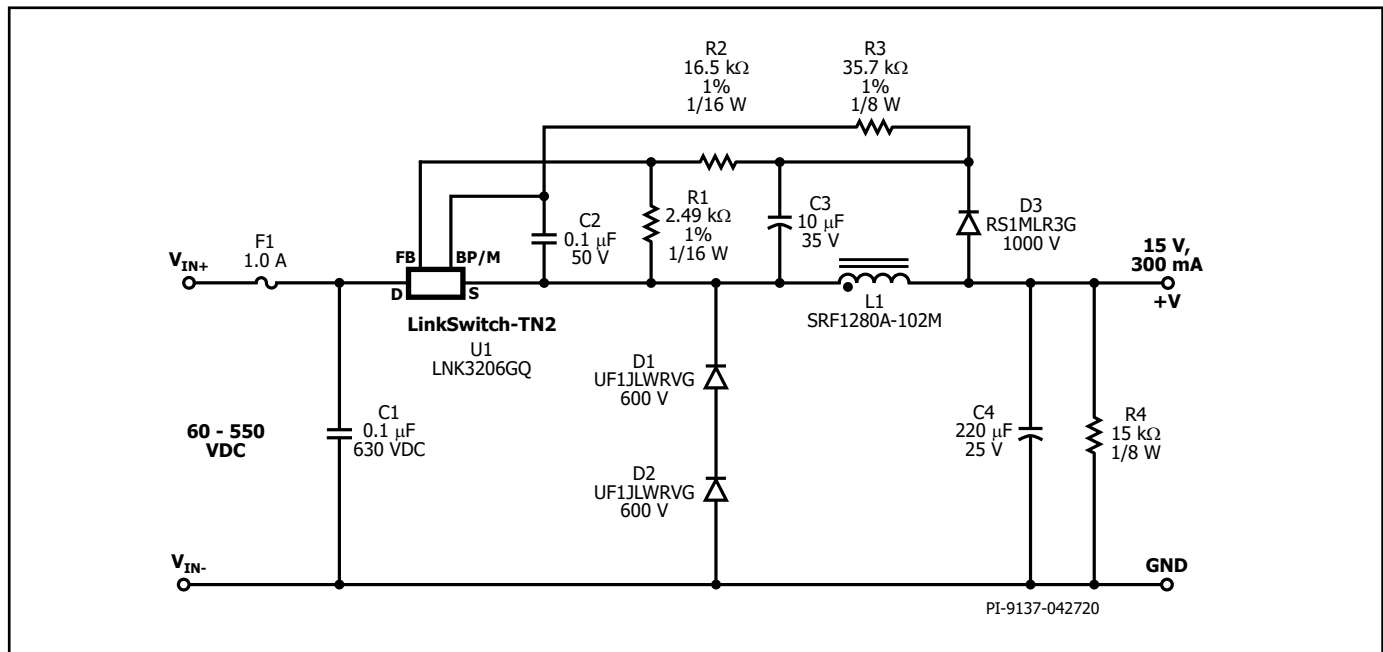
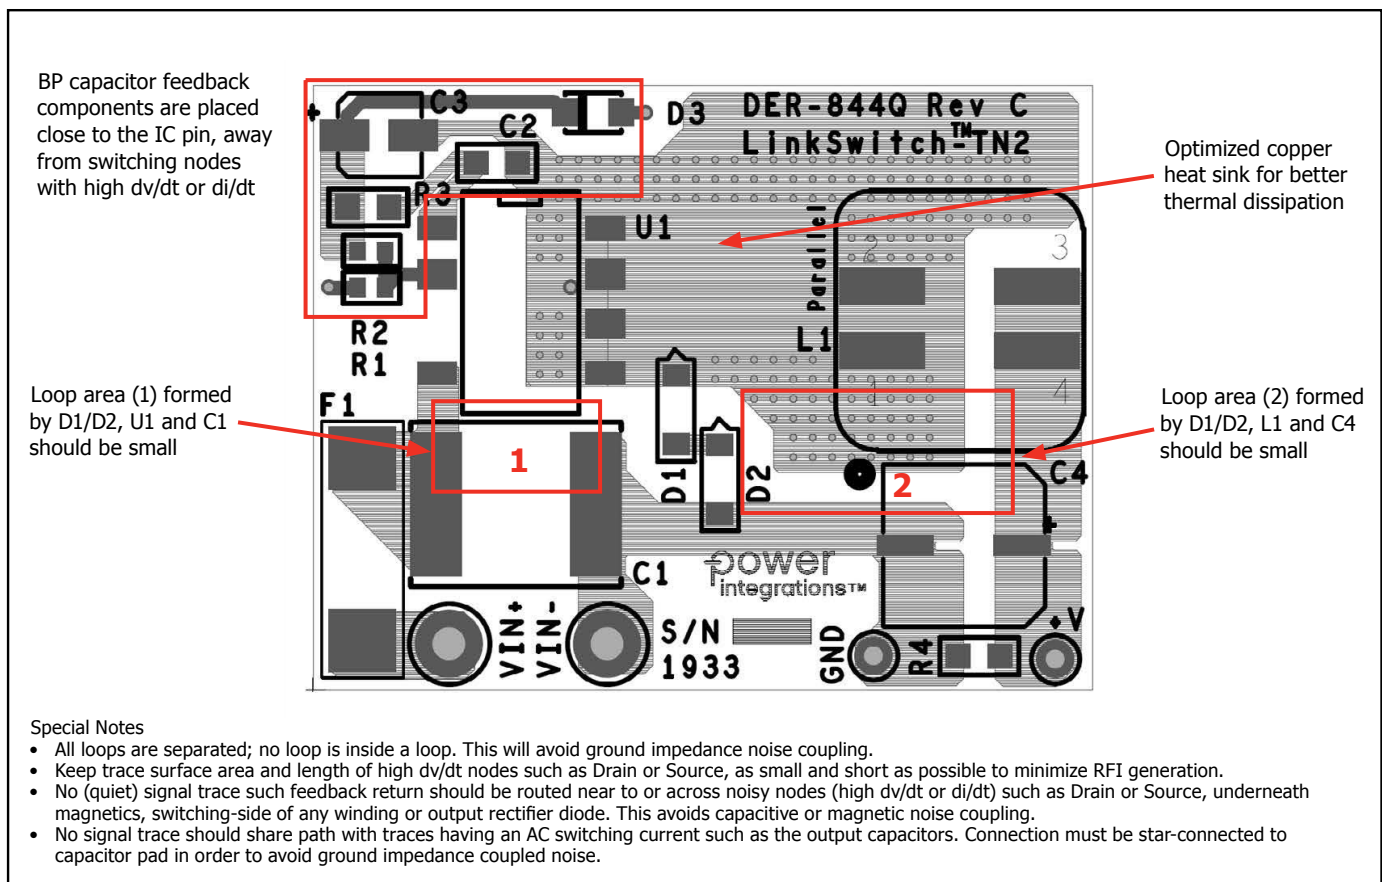

Figure 7. 60 VDC – 550 VDC, 15 V, 300 mA Constant Voltage Power Supply using LinkSwitch-TN2 Automotive.
Figure 8. Recommended Printed Circuit Layout for LinkSwitch-TN2 Automotive using G Package.
The circuit shown in Figure 7 is typical implementation of a 15 V, 300 mA non-isolated power supply used in automotive application. DC voltage from a battery source will be the input to the buck converter. The buck converter circuit was designed to meet AEC-Q100 Grade 3 temperature requirement of -40 °C – +85 °C.
Regulation is maintained by skipping switching cycles. As the output voltage rises, the current into the feedback pin will rise. If this exceed  $I_{FB}$  then subsequent cycle will be skipped until the current is reduces below  $I_{FB}$ . Thus, as the output load is reduced, more cycles will be skipped and if the load increases, fewer cycles are skipped. To provide overload protection if no cycles are skipped during 50 ms period, LinkSwitch-TN2 Automotive will enter auto-restart, limiting the average output power to approximately 3% of the maximum overload power. Due to tracking errors between the output voltage and the voltage across C3 at light load or no-load, a small pre-load may be required (R4). For the design in Figure 7, if regulation to zero load is required, then this value should be reduced to 5 kΩ.
Referring to Figure 7, the following considerations may be helpful in selecting components for a LinkSwitch-TN2 Automotive design. Selected component should be AEC compliant due to automotive application.
Figures 8 are printed circuit board layout design examples for the circuit schematic shown in Figure 7. The loop area 1 formed by LinkSwitch-TN2 (U1), free-wheeling diodes (D1, D2), and input bypass capacitor (C1) should be kept as small as possible. The loop area 2 formed by inductor (L1), output filter capacitor (C4) and free-wheeling diodes (D1, D2) should also be kept as small as possible. The BYPASS pin capacitor C2 should be located physically close to the BYPASS (BP) and SOURCE (S) pins. Effective decoupling capacitor C1 placement should be close to the DRAIN (D) pin. For a clean feedback signal, Feedback diode (D3) should be star connected to output cap (C4). Trace from output cap (C4) to Feedback diode (D3) should be spaced out properly away from switching nodes.